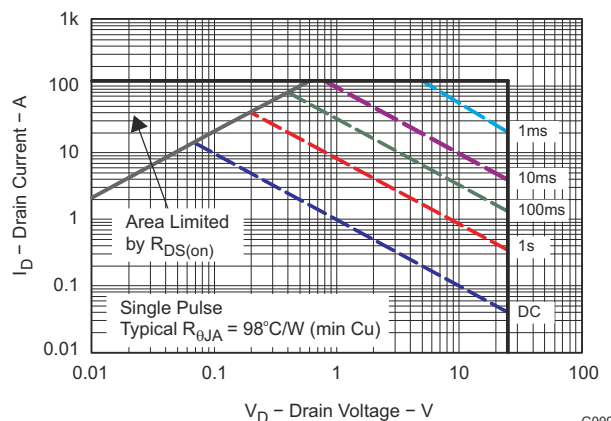

图 7-10. Maximum Safe Operating Area
- Changed 图 7-10 text From: $R_{\theta JA} = 99^\circ\text{C/W}$ To: Typical $R_{\theta JA} = 98^\circ\text{C/W}$ 4